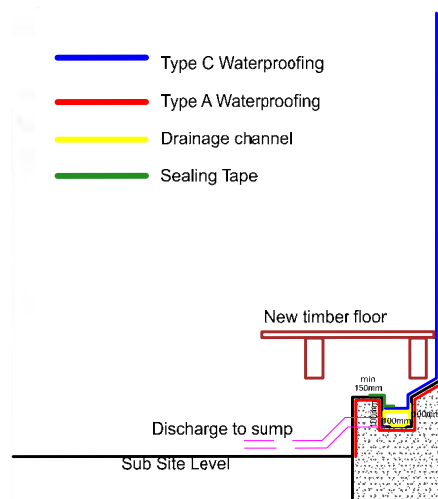

Figure 4 Concrete plinth for drainage channel
- Break up the existing sub site and install a concrete constructed plinth as shown in Figure 4 with 110mm discharge pipework installed from base of channel recess to sump location.